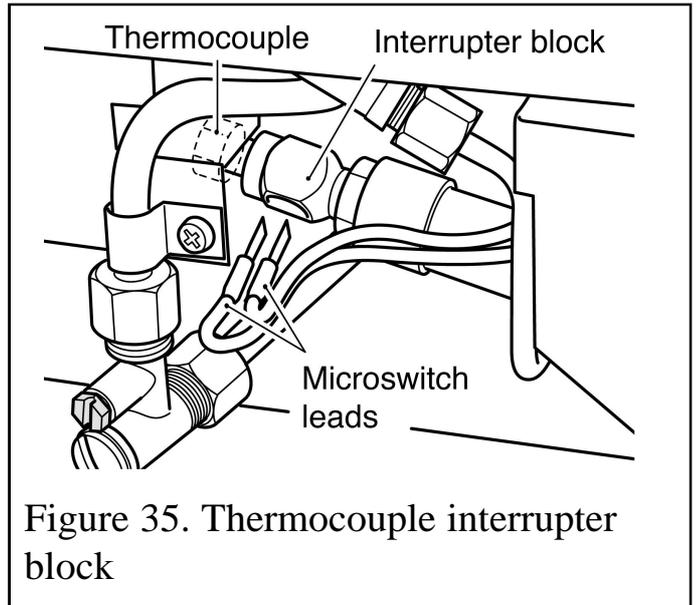

Figure 35. Thermocouple interrupter block
3. Loosen the thermocouple nut to free the microswitch leads and pull the leads clear of the thermocouple interrupter block (See figure 35).
(See figure 35).